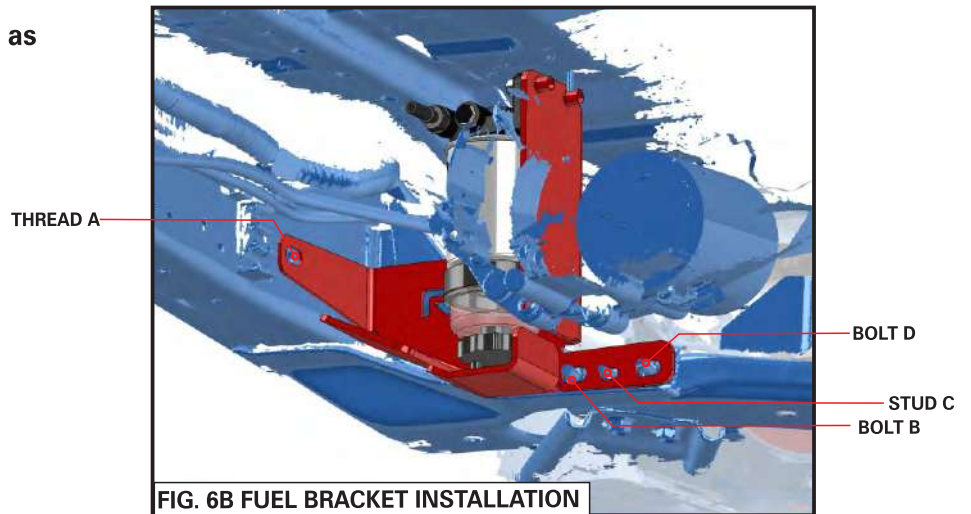

FIG. 6B FUEL BRACKET INSTALLATION
4. Locate FB9805FC bracket to vehicle as shown in FIG. 6B